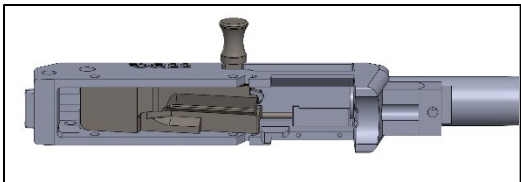

Figure 30
- With the spring fully compressed, insert the bolt into the lower rear of the receiver with the notched portion facing down and towards the barrel – Figure 30. This notch will mate with the charging handle.